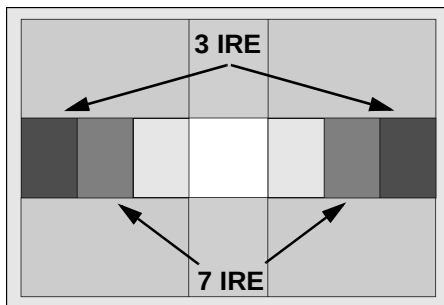

Figure 28. Sub-bright adjustment
2. Adjust register until get the 7.5 IRE section looks the same light output than 3 IRE section. See Fig. 28